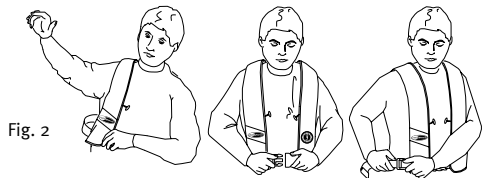

Fig. 2
- 2) Put the AirForce® PFD on just like a jacket (Fig. 2) and fasten the front buckle. Adjust the waist belt using the side buckle on the belt and secure the belt's loose end in the belt loop. Do not wear AirForce® PFDs under clothing as the inflation could be restricted or you could be injured.